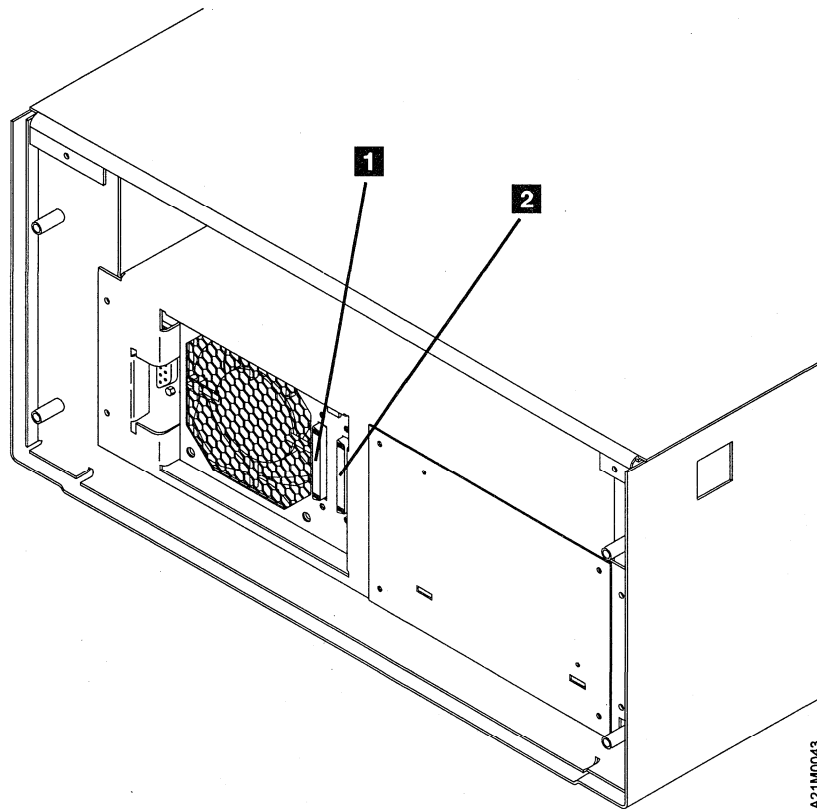

Figure 40. Rear View of Model C01 or C11
- 2. If the Magstar MP is the first or only SCSI device connected in line to the initiator, connect the SCSI cable coming from the initiator to the leftmost SCSI connector on the back of the library (see **1** in Figure 40).
- 3. If the Magstar MP is not the first device on the SCSI bus, connect the SCSI interface cable coming from the next closest device to the leftmost SCSI connector on the back of the library (see **1** in Figure 40).
- 4. If this is the last device on this SCSI bus, locate the SCSI interface terminator (P/N 61G8324) and attach it to the rightmost SCSI connector on the back of the library (see **2** in Figure 40).
- 5. If the library is not the last device on this SCSI bus, locate the SCSI interface cable to the next device and connect it to the unused, rightmost SCSI interface connector on the back of the library (see **2** in Figure 40).